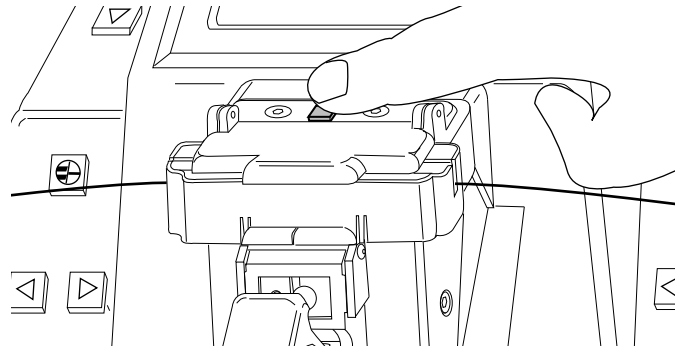

Figure 25
- d) Close the cover. Push the yellow button on top of the heater to begin the heat cycle (Figure 25). The red LED will glow while the heat cycle is on. (The heater can be turned off by pushing the yellow button again).